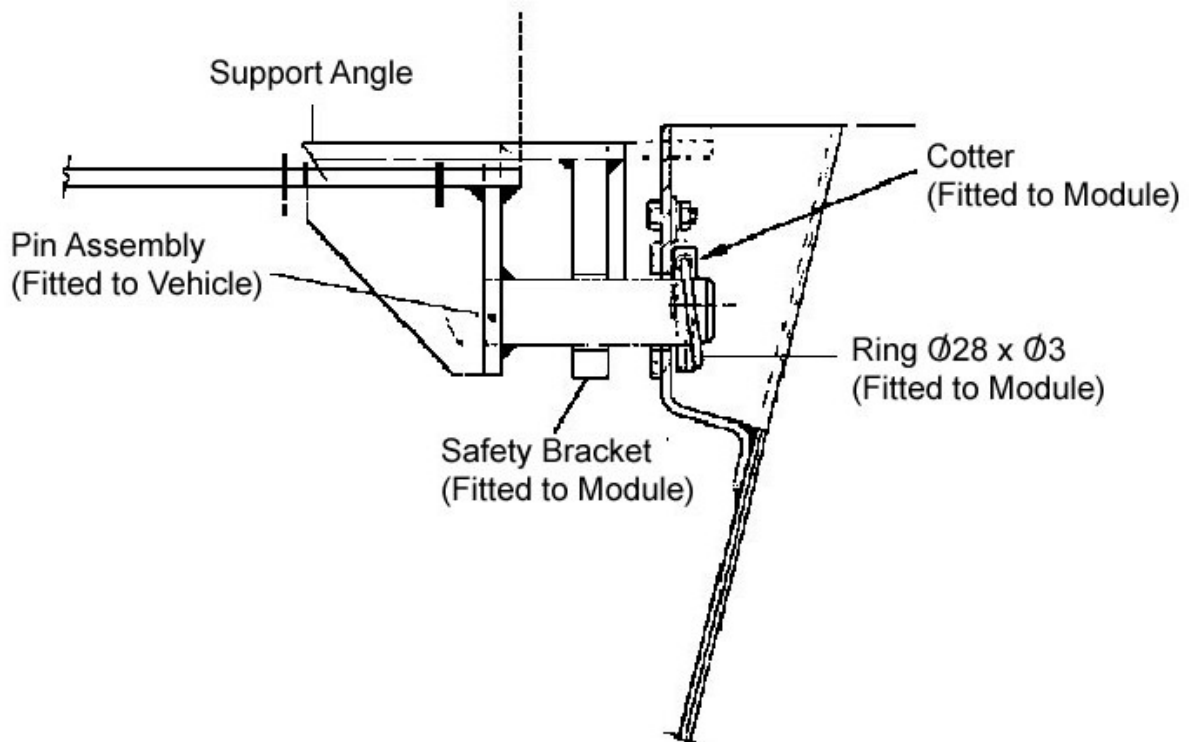

Figure 3: Securing Devices on Fixed Tray Modules
- 1.3.7 Operate the leadscrew to wind in the module and secure the module with two cotters (see Figure 3).